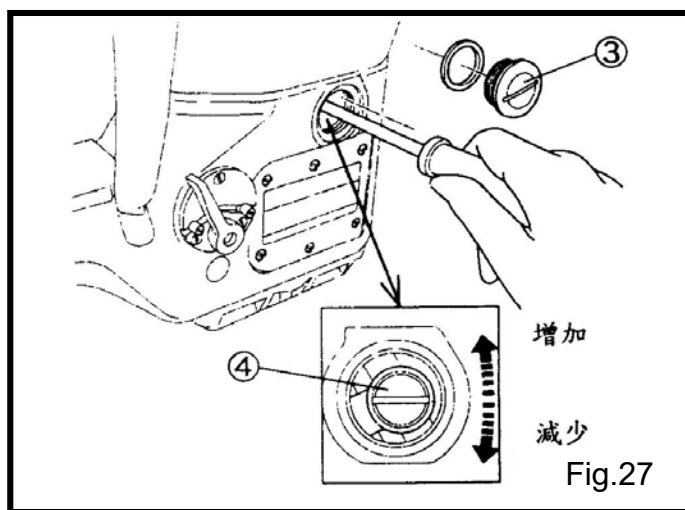

Fig.27
- (2) 退掉油塞螺絲③。(Fig.27)
- (3) 放鬆螺絲④去調整粗細針。
- (4) 鎖緊螺絲④和重新裝上油塞螺絲③。
- 增加針距時，將螺絲④向上調整。
- 減少針距時，將螺絲④向下調整。
- (2) Remove the plug screw③.(Fig.27)
- (3) Loosen the screw④ to adjust the stitch length.
- (4) Tighten the screw④ securely and reset the plug screw③.
- To increase stitch length, move the screw④ upward.
- To decrease stitch length, move the screw④ downward.